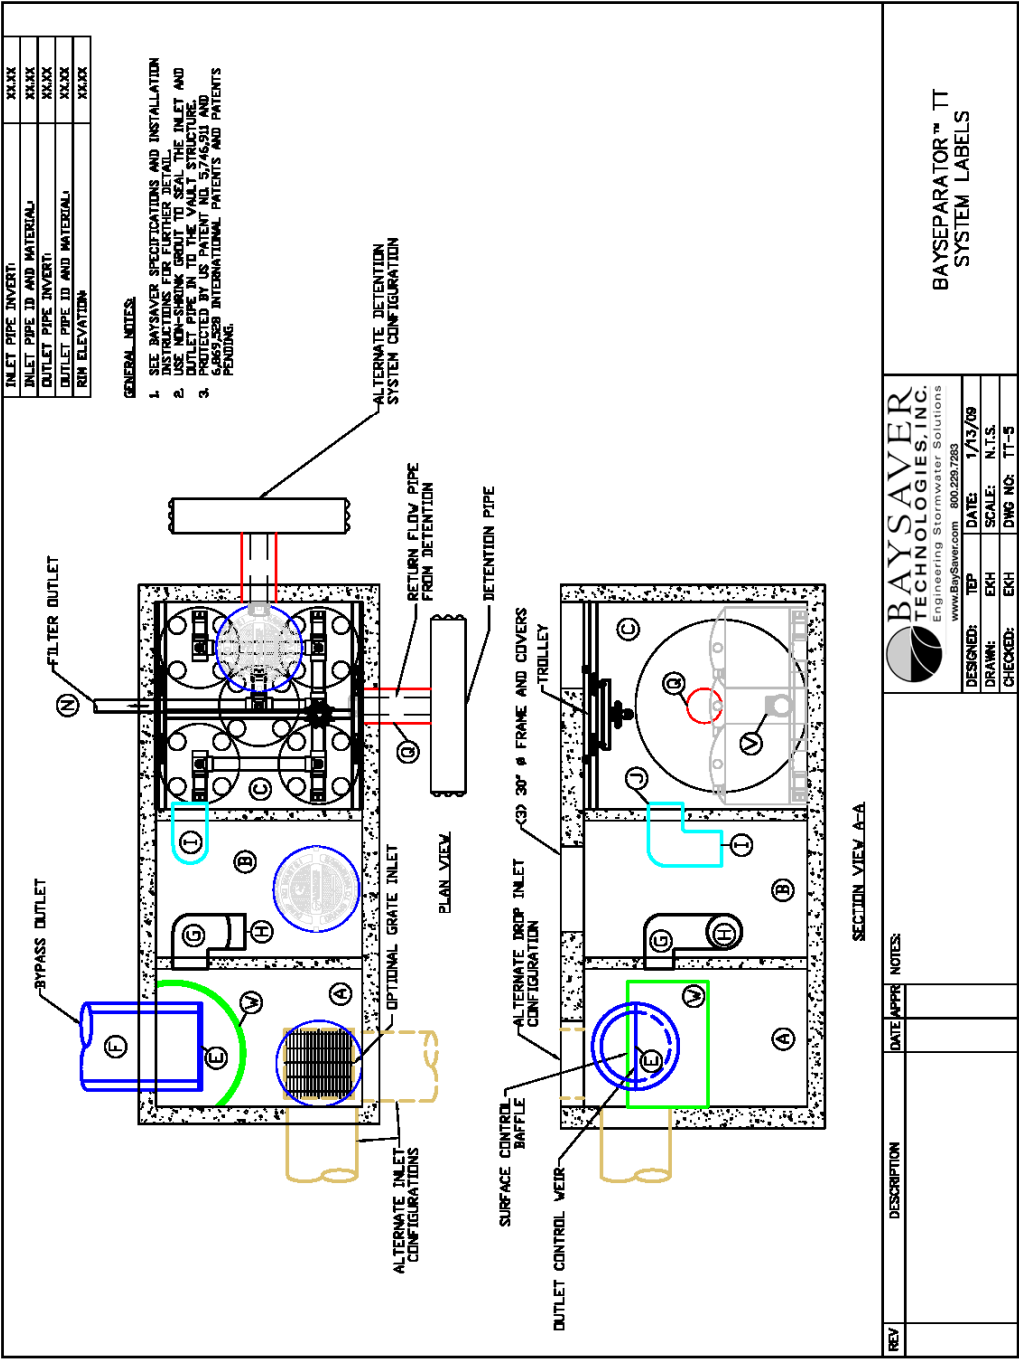

Figure 2.7: BaySeparator™ TT
During low flow conditions, influent water enters the BaySeparator™ TT through the inlet pipe (labeled D in Figure 2.7), in the same manner as it does in the BaySeparator™ SV. It flows directly into the primary chamber (A), causing the water level in that chamber to rise. When the water level in the primary chamber rises, water is skimmed from the surface of that chamber by a pipe (G) that penetrates the wall between the two chambers. This pipe delivers the storage inflow water to the storage chamber (B), where it enters horizontally below the water surface through a 90 degree fitting (H). When the water enters the storage chamber, the entrained sediments and floatables separate from the water stream – sediments settle to the structure floor and oils rise to the water surface. The additional water in the storage chamber displaces clean water from the center of the column, and this storage outflow enters the return pipe (I) and flows into the filtration chamber (C). The treated water enters the filtration chamber horizontally through a 90 degree fitting on the end of the pipe (J).